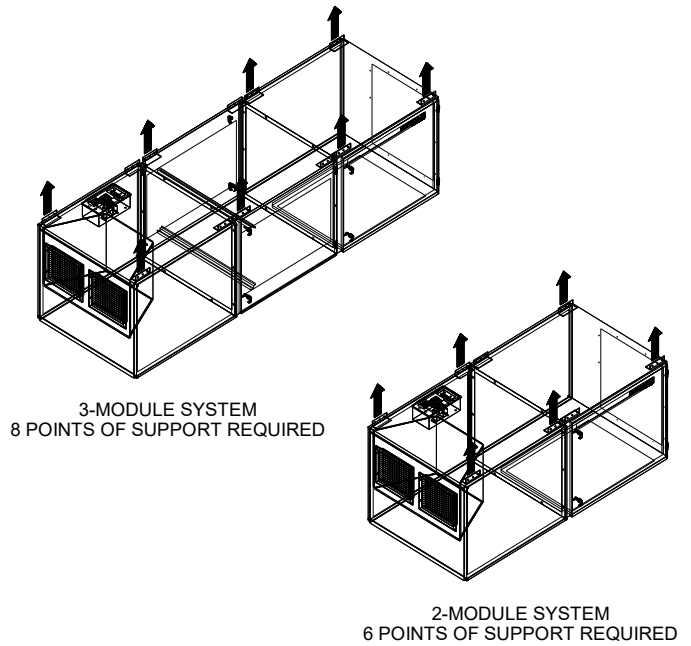
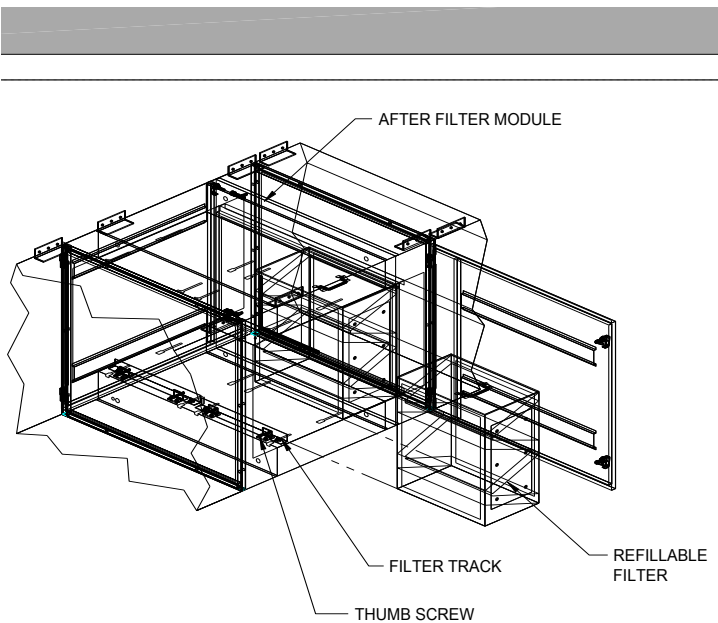

FIGURE 1
FIGURE 8
**CAUTION:** Typical installations require that the unit be suspended from ceiling structure. Structure must be sufficient to support at least four (4) times the maximum weight of the unit.
1. Determine the location where the unit will be installed. Be sure to allow sufficient room to access all four vertical sides of the unit for servicing and maintenance. Forty-two (42) inches minimum is recommended.
3. Support the unit at each end and where modules are coupled together (see **Figure 1**).
1. The MC 3000 is offered with an additional filter module that can hold up to four (4) 20" X 24" X 12" filters. The After Filter Module is pre-assembled to the MC 3000, between the Filter Module And Blower Module (see **Figure 1**).
3. To remove filters from the After Filter Module, open the filter access door, thereby gaining access to filters. Loosen the eight (8) thumb screws that hold the filter tracks allowing the filters to slide freely, and pull filters out of Filter Module.
4. Refillable charcoal filters are shipped with charcoal separate. To fill charcoal filter, remove the charcoal filter cover (retained with six (6) screws) thereby exposing the filter slots. Carefully pour charcoal (or activated alumina) into the filter slots and reassemble charcoal filter cover to the charcoal filter (see **Figure 8**).